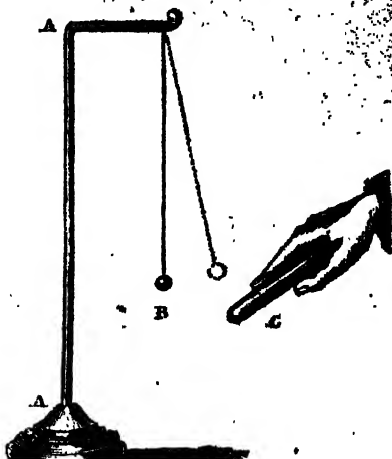

FIG. 1.
*1st Experiment.*—Warm the glass tube, and with a dry silk handkerchief excite it by rubbing it several times; then it will become electrified and capable exercising its attractive powers. On a small stand or convenient support hang one of the pith balls (a stand somewhat similar to Fig. 1\* is most convenient); present the glass towards it: the pith ball will immediately fly towards